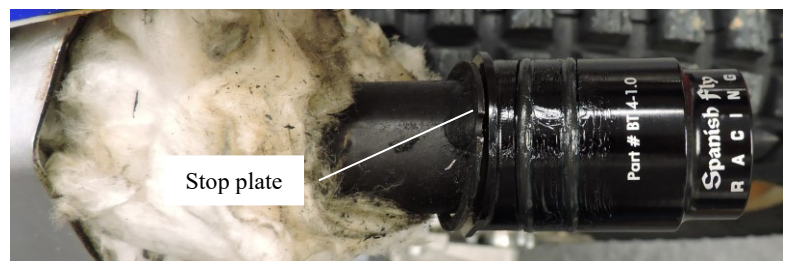

Figure 4-Adapter correctly positioned on exhaust tube.
- 5) Next slide the adapter over the exhaust tube to check fit (Ref. Figure 4). The adapter should easily slide on & contact the stop plate. If the fit is not satisfactory remove excess weld material, rust, or other foreign material with a file until proper fit is achieved. Application of a little grease to the outside of the adapter & O-rings will make it easier to re-install the end cap.